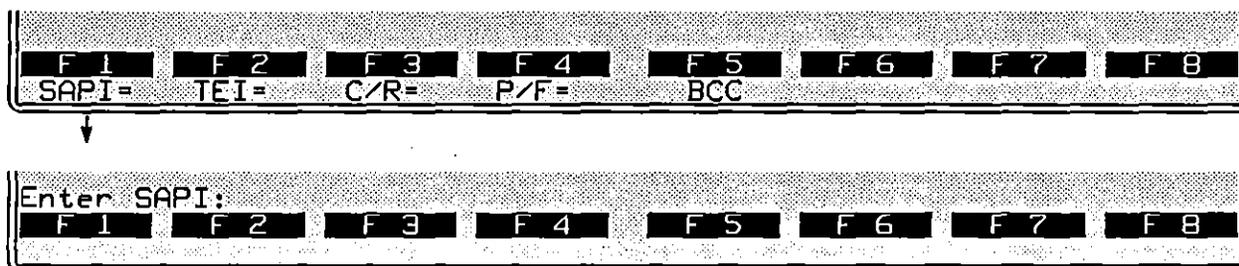

Figure 42-9 The hex value of the SAPI is entered as two alphanumericics.
6. **SAPI.** A SAPI condition may be added to all frame types. Press the softkey for SAPI=, shown in Figure 42-9. Then enter the 6-bit SAPI value as two hex digits in a range from 00 to 3F. (Do not use the **HEX** key.) The entry will appear as in this example:
To bypass the SAPI= selection (as well as the other options on the same rack of softkeys in Figure 42-9) press **OK**.